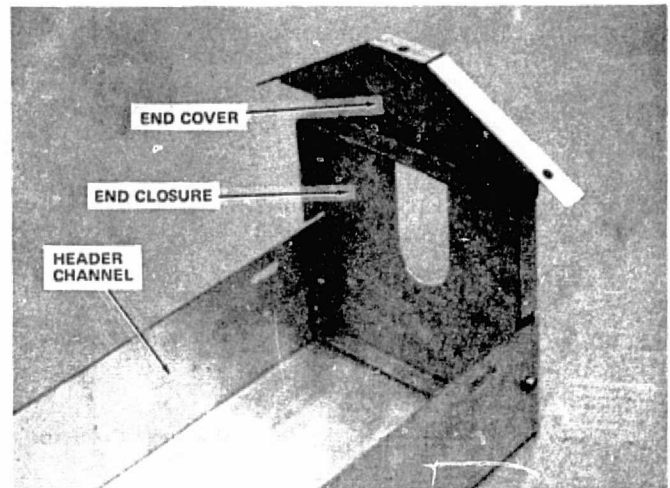

Figure 3-14. Attach End Closure and Cover for End-of-Row Collectors
7. Attach the end closure and cover to the header channel, (Figure 3-14). Re-install the collector transition cover